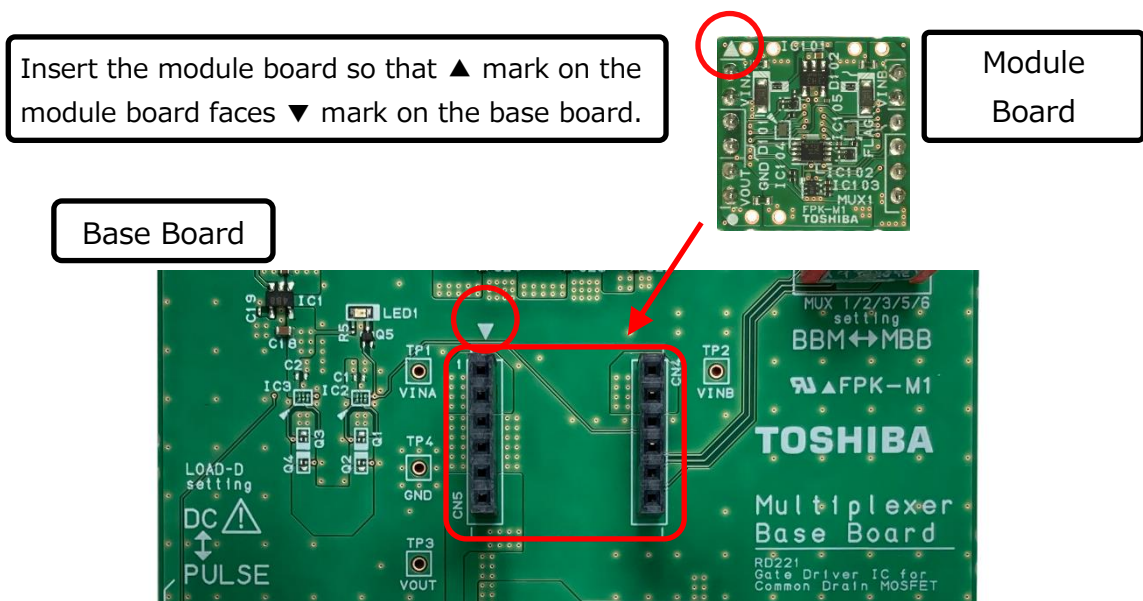

Fig. 4.2 Connection between Base Board and Module Board
1. Connect the module board to the module board connector (CN4, CN5) on the base board as shown in Fig. 4.2.